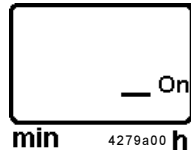
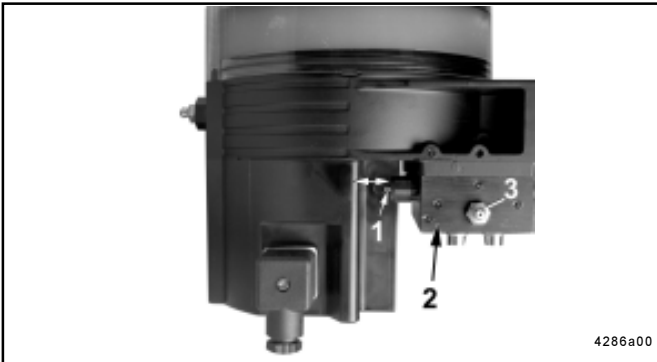

Fig. 20 - Green segment, time of availability
Fig. 24 - QLS 321 without proximity switch, movement of the control pin
- A malfunction of the secondary system is visible on the control pin 1 (fig. 24). If during the operating time the control pin does not move to the left and right, this indicates a malfunction. In this case, the pump of the QLS 321 does not return the grease visibly via the pressure relief valve (fig. 20) back to the reservoir.